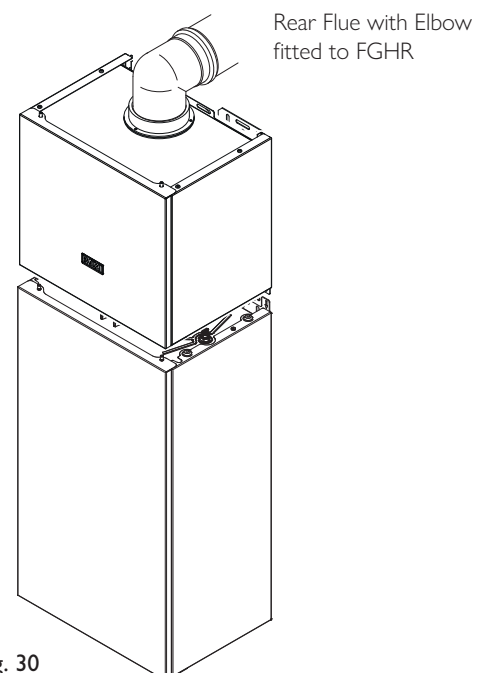

Fig. 30
6. The flue system can now be installed (Fig. 30). Follow the method described in the boiler Installation & Service Manual. The flue adaptor on top of the Assure FGHR is similar to that on the boiler.